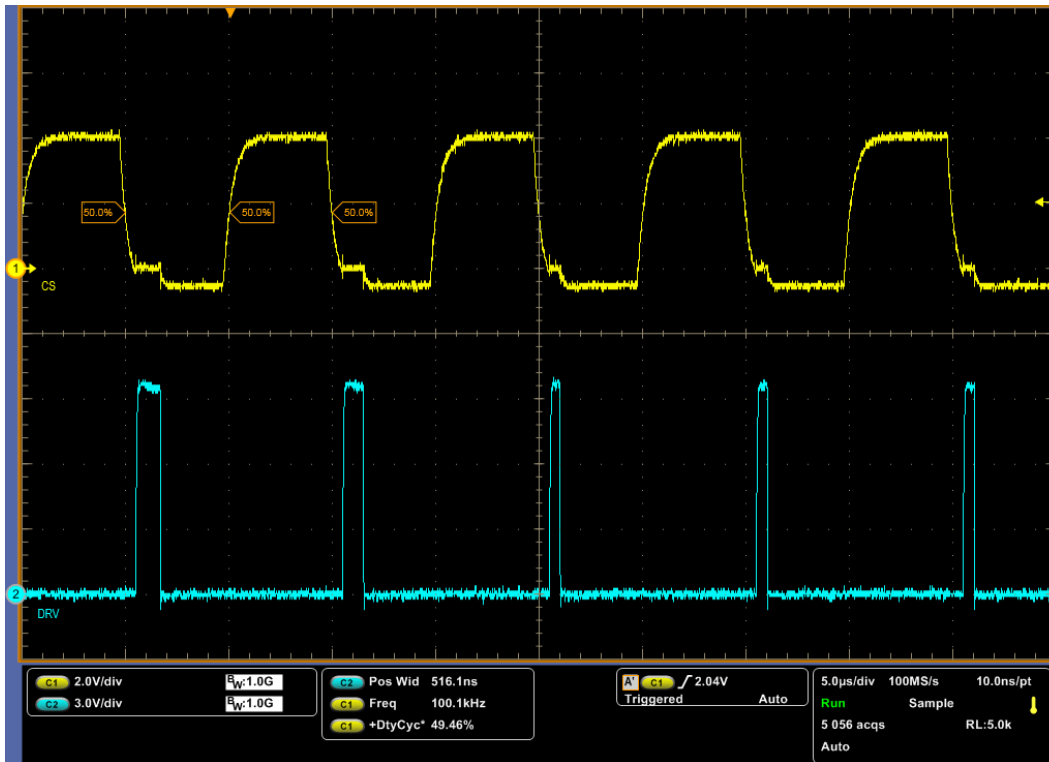

Figure 2: $V_{CC} = 12 \text{ V}$, $f = 100 \text{ kHz}$, $DC = 50\%$, $V_{LOW} = -1 \text{ V}$, $V_{HIGH} = 4 \text{ V}$
4. Check that $I_{CC} = 7\text{-}10\text{ mA}$, waveforms look like in figure 2 (DRV pulses may oscillate between 470 ns and 5 μs)